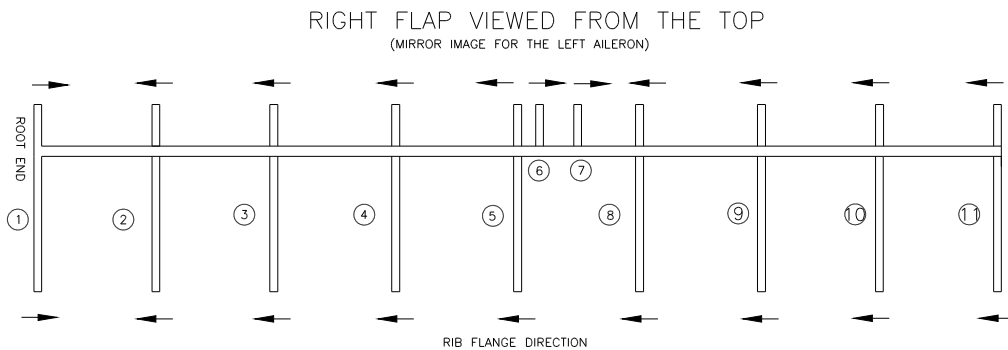

Figure 7.2.1
- 1) Lay out all parts for Flap as in Figure 7.2.1. Make sure the rib flanges are facing the correct direction. The Main Aileron Ribs (AIL-23) are symmetrical and therefore there are no lefts and rights. The Leading Edge Ribs (AIL-22L & AIL-22R) are not symmetrical so make sure you have the correct
rib facing the correct direction. Rib stations 1,6 and 7 use AIL-22L and rib stations 2,3,4,5,8,9,10 and 11 use AIL-22R. See Figure 7.2.1 for rib locations. The long flange of the rib goes against the spar.
- 9) On the table turn the spar around and position the Main Flap Ribs (AIL-23) in place. See Figure 7.2.1 for flange direction.